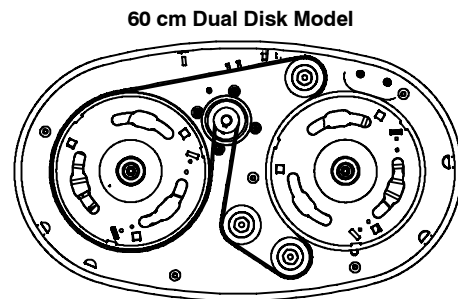

FIG. 71
5. Route the new belt as shown (Figure 71).